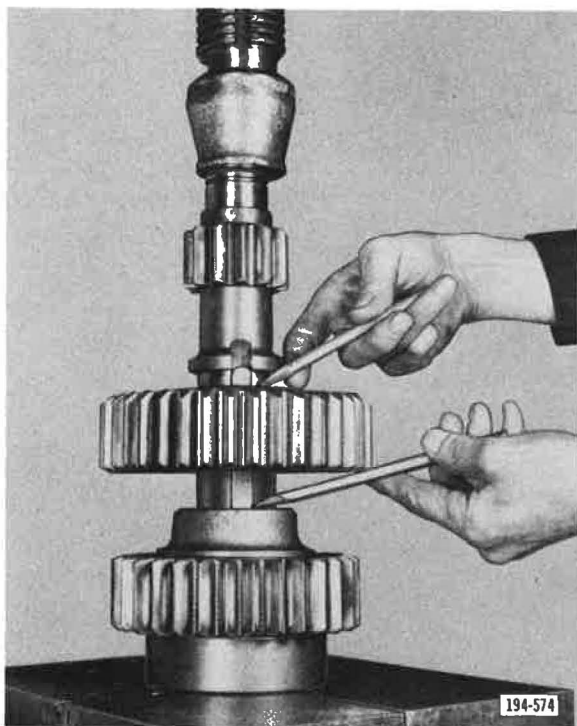

Figure 279. Pressing Gears onto Countershaft
5. Align Direct gear with large hub facing away from Lo/Hi range gear, and press onto shaft until it seats against Lo/Hi range gear. Refer to previous NOTE. See Figure 279.